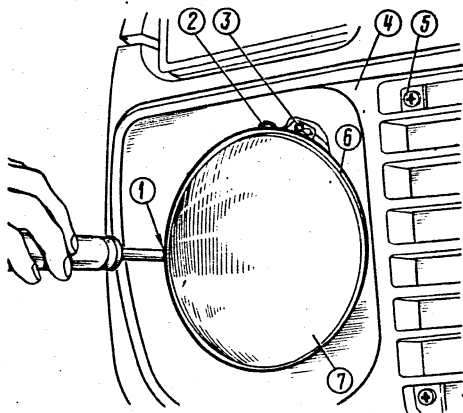
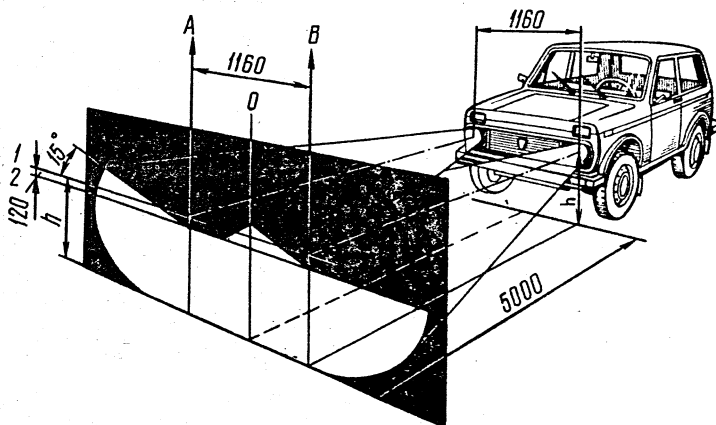

Fig. 7-27. Headlamp Aiming:
Fig. 7-28. Headlamp Aiming Diagram
- remove decorative facing 4 (Fig. 7-27) on the front end of the body by turning out screws 5;
Mark the screen as shown in Fig. 7-28, drawing an axial vertical line O and vertical lines A and B
Turn on the lower beam. Cover first the L.H. then the R.H. headlamp with a piece of cardboard or dark cloth and adjust the light beams with screws 1 and 2 (Fig. 7-27). The upper boundary of the hot spots of well-aimed headlamps should coincide with line 2 (Fig. 7-28) while the points of intersection of the horizontal and inclined portions of the hot spots, with lines A and B.